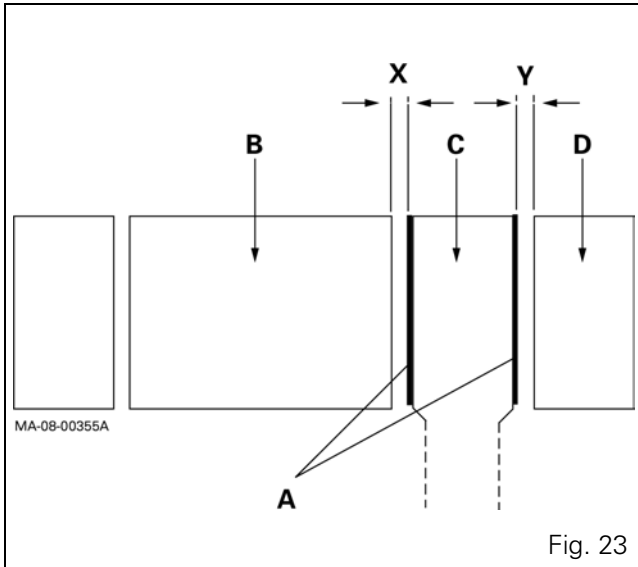
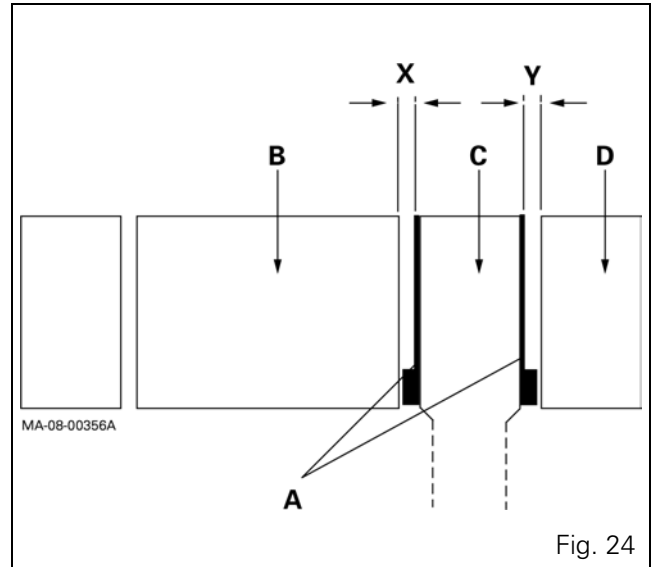

Fig. 23
Fig. 24
**26.** Simultaneously measure the dimensions X between the arm B and ram head C, and Y between the arm D and ram head C. Use two long shims, holding washers A in place (Fig. 23 or Fig. 24 for models with shouldered washers).